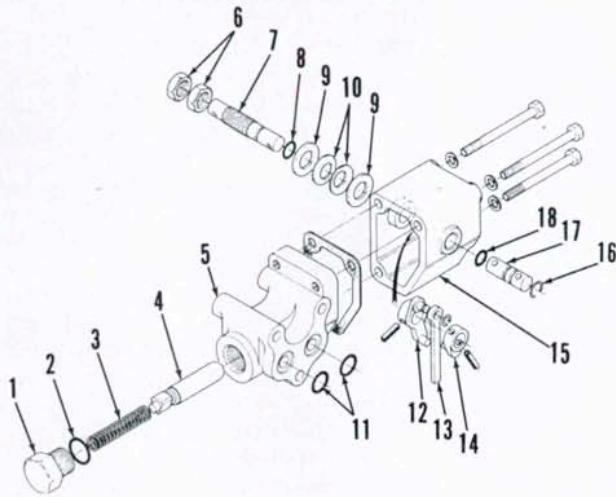

Fig. 171—Exploded view of draft control valve used on models so equipped.
To disassemble valve, remove plug (1—Fig. 171) and spring (3). Remove through-bolts and separate case (15) from valve body (5). Withdraw valve spool (4) from body. Drive out spring pins and remove shafts (7 and 17), arms